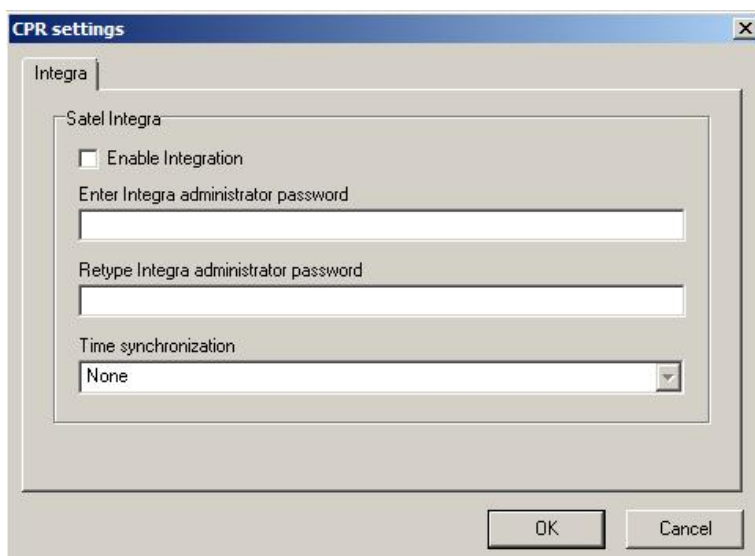

Fig. 6 INTEGRA window in PR Master
9. In the next window (see fig. 6) activate the option **Enable Integra control** and enter the password of INTEGRA administrator user in the field **Enter Integra administrator password** and in the field **Retype Integra administrator password**. There is also option which enables time synchronization between CPR32-NET and INTEGRA panel in both ways i.e. CPR32-NET -> INTEGRA or INTEGRA -> CPR32-NET.